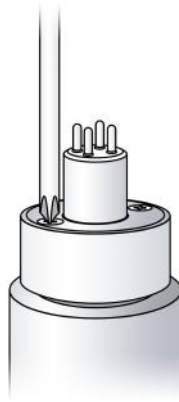

Fig 2
- b) Connect the Pure Water Connection (Fig 2)